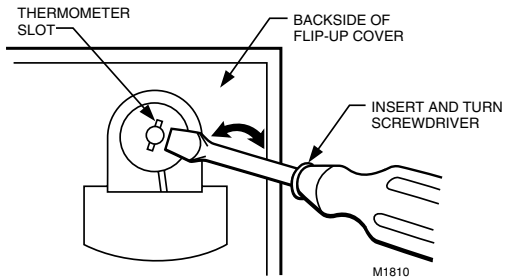

Fig. 7—Thermometer adjustment.
- If the readings are different, insert a small screwdriver in the thermometer slot shown in Fig. 7 and turn it until both thermometers read the same.